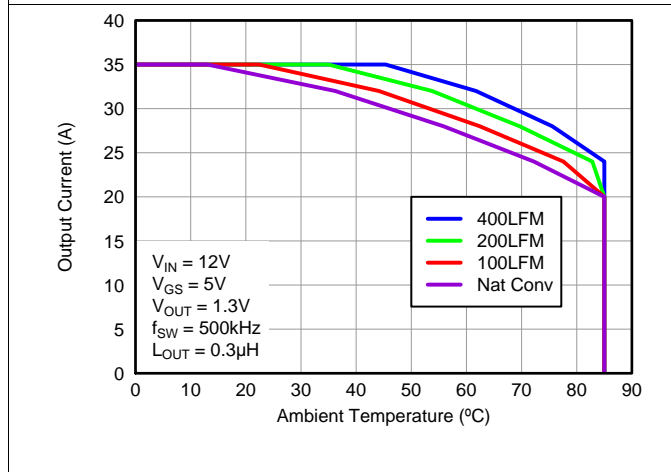

Figure 3. Safe Operating Area – PCB Vertical Mount(1)
The SOA curves in the CSD87351Q5D data sheet provides guidance on the temperature boundaries within an operating system by incorporating the thermal resistance and system power loss. Figure 3 to Figure 5 outline the temperature and airflow conditions required for a given load current. The area under the curve dictates the safe operating area. All the curves are based on measurements made on a PCB design with dimensions of 4 in (W) × 3.5 in (L) × 0.062 in (T) and 6 copper layers of 1-oz copper thickness.